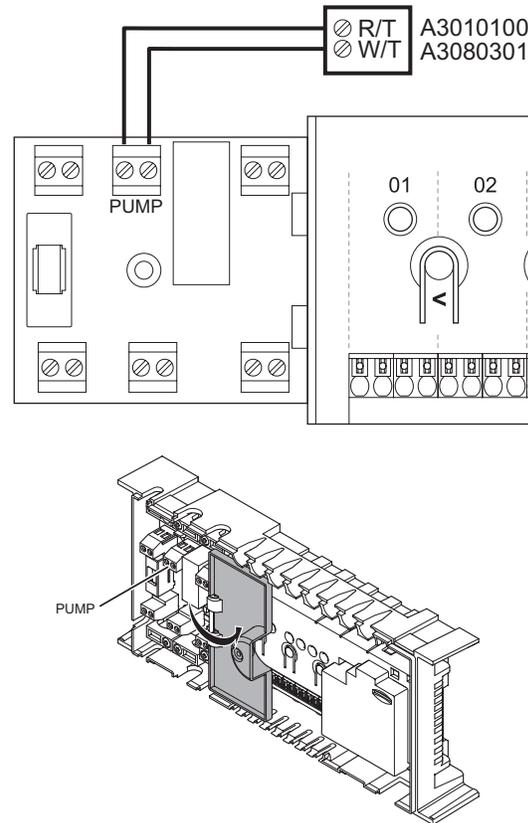

**Figure 3-12: Connecting actuators to the base unit**
1. Lead the cables from the actuators through cable entries in the bottom of the base unit frame (see **Figure 3-12**).